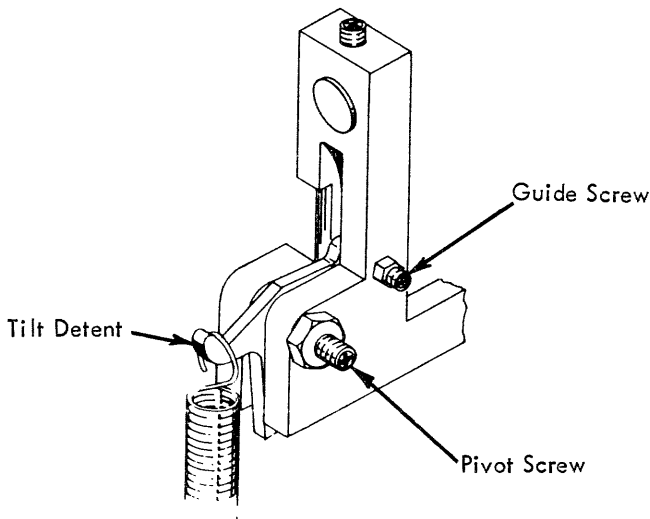

FIGURE 50. Tilt Detent Adjustment
5. Tilt Detent - Adjust the guide and pivot screw so that the tilt detent will operate freely with no side play (Fig. 50).